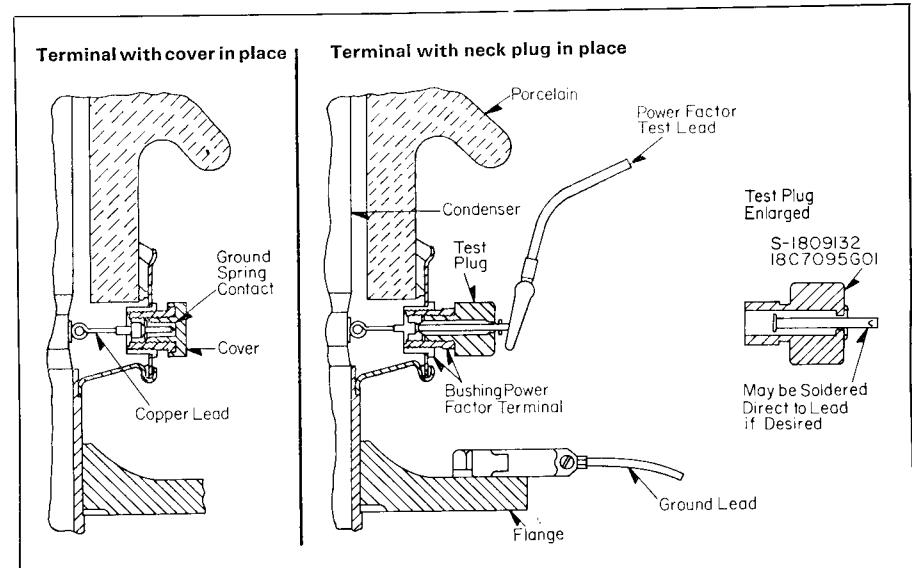
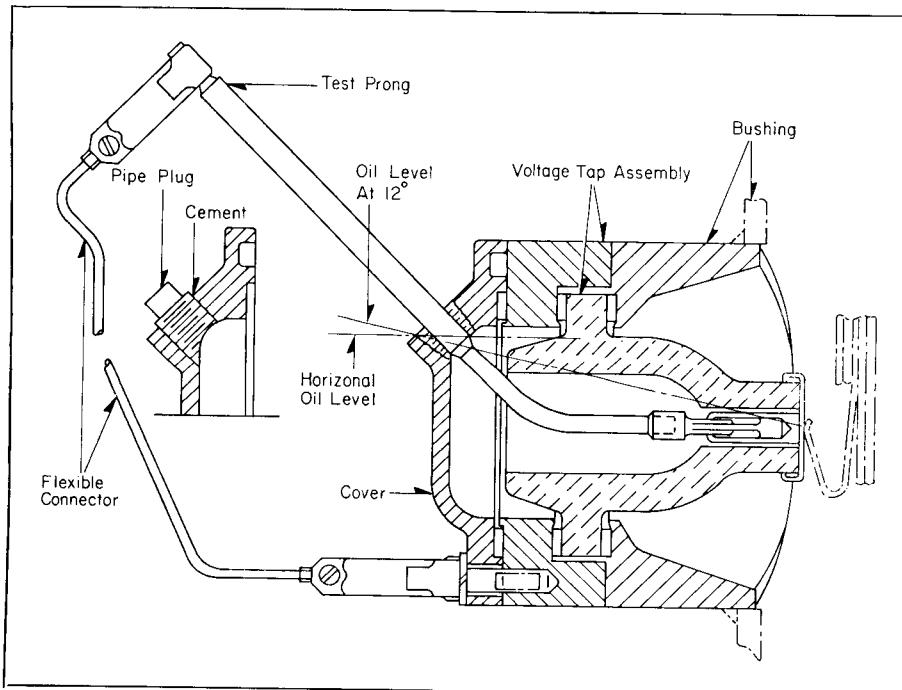

Figure 31: Power Factor Testing Terminal for Making Ungrounded Power Factor Tests on Condenser Bushings 69 Kv and Below.
Figure 32: Test Prong for Making Ungrounded Power Factor Tests through Voltage Tap on Bushings above 69 Kv.
This method is used for making power factor and capacitance measurements of a bushing without disconnecting it from the apparatus. Ten kv test voltage can be applied to the bushing conductor for bushings rated 23 kv and above (use five kv or less for bushings below 23 kv), but do not apply more than 500 volts to the power factor test terminal (Figure 31) or 2500 volts to the test prong (Figure 32). This will avoid the damage to the test terminal or corona in the test prong.
- a. For power factor taps (Figure 31) — a 500 volt "megger" should read 5,000 megohms or more.
- b. For voltage taps (Figure 32) — grounded-specimen test (tap at high voltage-lead and flange at ground).